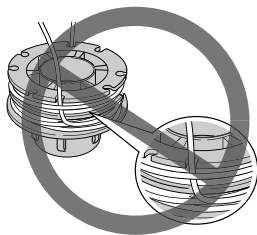

Fig. 27
- NOTE:** Do not cross the nylon line when securing the line in the stopper. (Fig. 27)